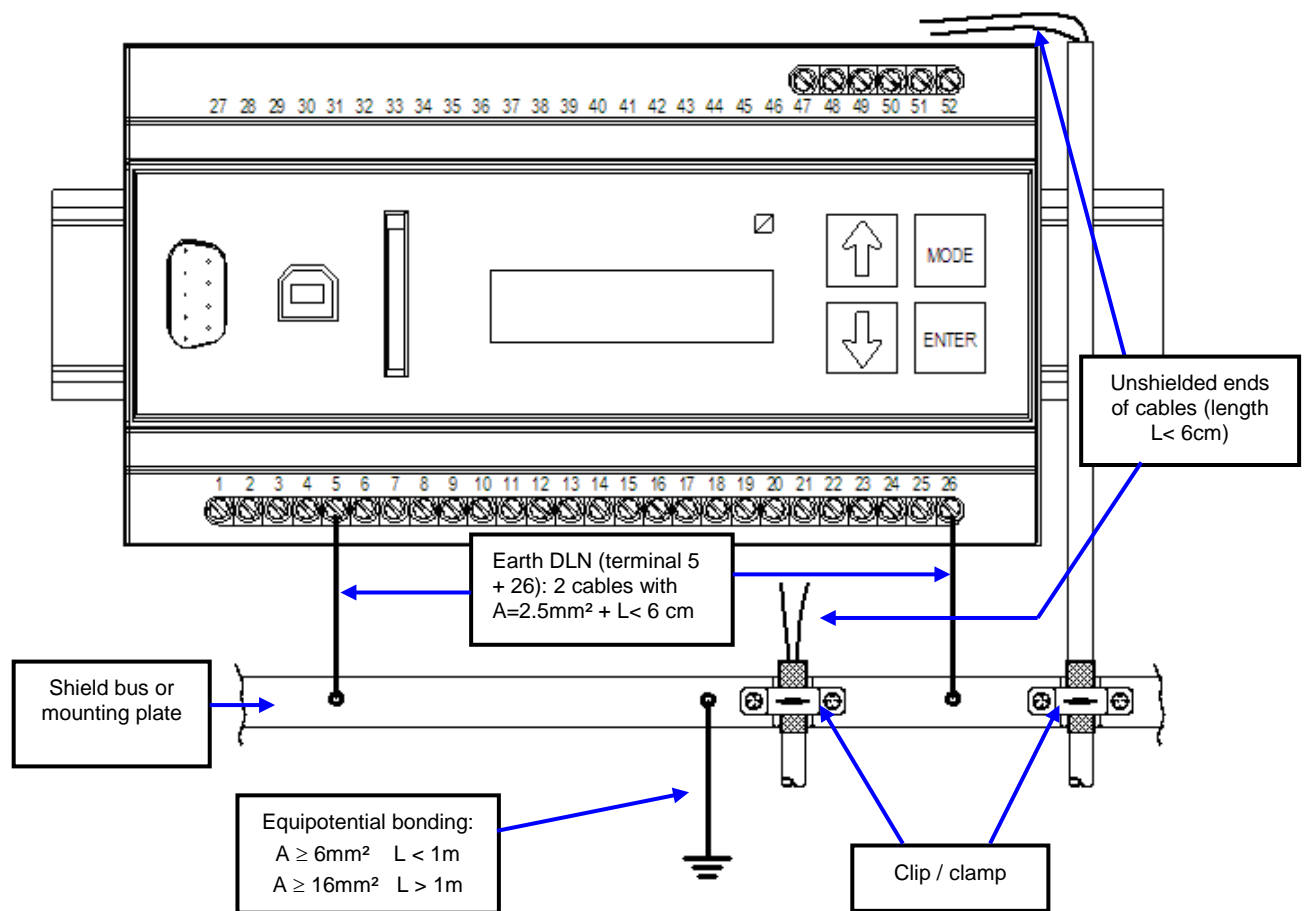

Figure 3: Example of device earthing
- **Plastic housing or no housing:** Connect shield using suitable rails or a metal mounting plate with clips/clamps (see **Figure 3**). There should be extensive contact between the cable shielding and the clips.